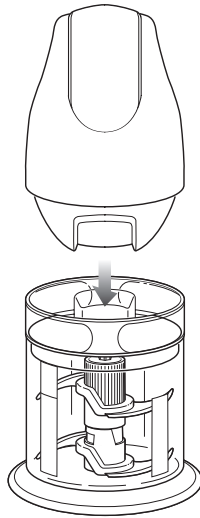

Fig. 4
- 6 Place the Power Head on top of the splash guard making sure that it is securely in place. (fig. 4) **DO NOT** attempt to operate the appliance without the safety splash guard in place.